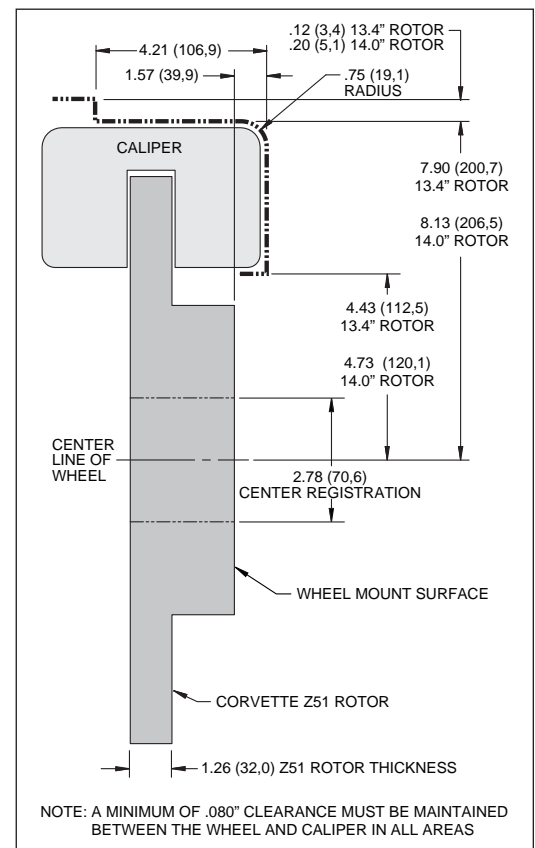

Figure 2. Wheel Clearance Diagram
- Make sure this is the correct kit to fit the exact make and model year of your vehicle, spindles, and wheels. This kit is designed for direct bolt-on installation to mount a Aerolite 6R caliper to all 1997-2013 C5/C6 Corvette Original Equipment (OE) production front spindles using an OE style one-piece front rotor from one of the following production models:
- **NOTE:** This kit does not fit all Corvette wheels. This kit has been verified to fit inside 18" C6 Grand-Sport and Z06 front wheels, but interference may occur with other production and aftermarket wheel styles. Wheel clearance must be verified using Figure 2.
- Verify your wheel clearance using Figure 2.